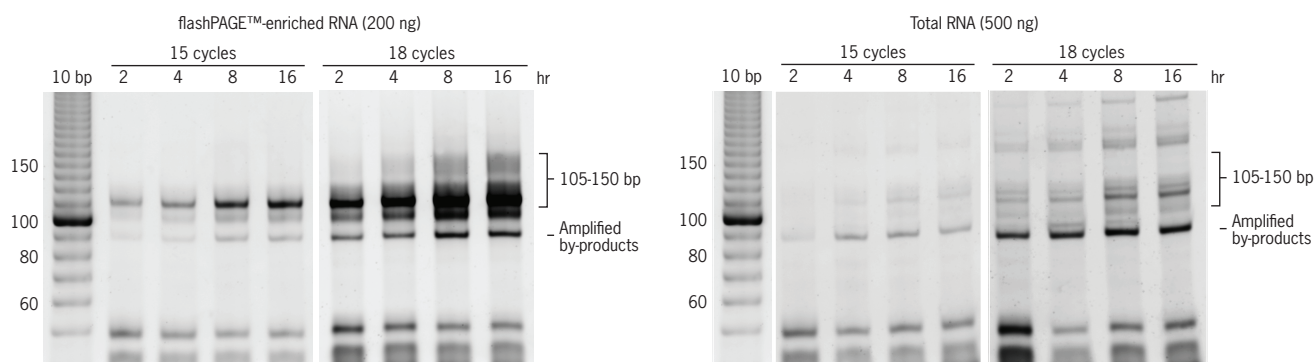

Figure 2 SOLiD™ Small RNA Expression Kit products: input, ligation time, and number of PCR cycles
An 8–16 hr incubation is recommended for most samples, but less time may be sufficient if enough small RNA is present in the starting material. See Figure 2.
Most samples should be amplified for 15–18 cycles. For pilot experiments, use 15 PCR cycles. Increase the number of cycles to 18 for the large-scale PCRs if the amount of desired product seen in the pilot PCR is insufficient (Figure 2 on page 10).
Underamplified samples exhibit very little material in the ~108–130 bp size range (Figure 2 on page 10, right panel).
- Conversely, overamplified samples typically show a significant amount of material in the ~108–130 bp size range, plus a smear of reaction products larger than ~140–150 bp (Figure 2, left panel).